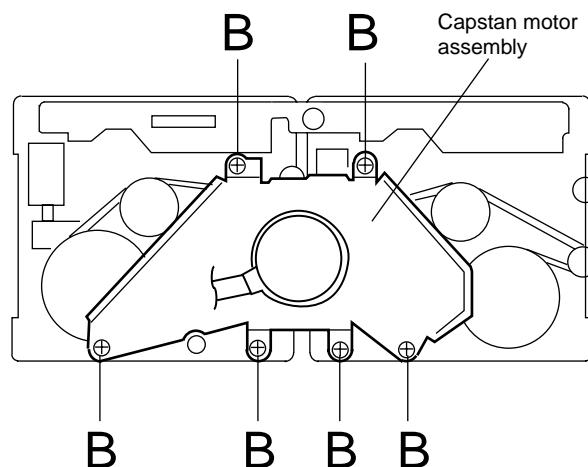

Fig.5
■ Removing the capstan motor assembly (See Fig.5 to 7)
1. Remove the six screws "B" retaining capstan motor assembly (See Fig. 5).